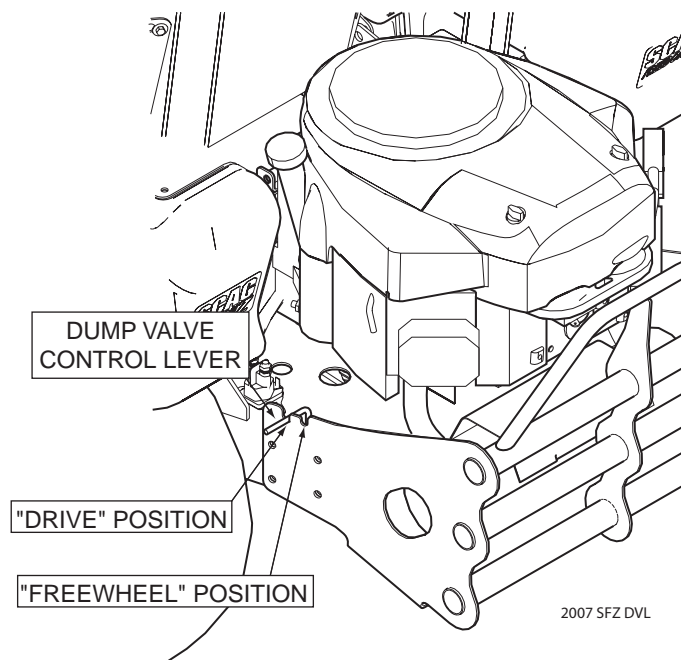

Figure 7-5 Dump Valve Control Lever
11. Move the dump valve control levers to the "freewheel" position. (See Figure 7-5).
14. Engage the parking brake. Move the dump valve control levers to the drive position. (See Figure 7-5).